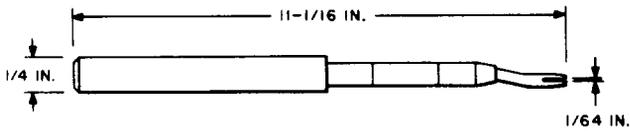

Fig. 4—AECO H-7068-3 Adjuster Tool
2.04 AECO H-7068-3: The AECO H-7068-3 tool (Fig. 4) is a bank contact adjuster used on plunger-type line and out-trunk switches.